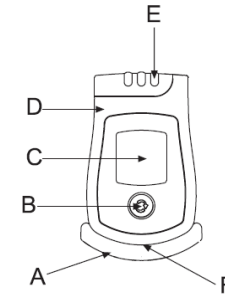

Figure 1
- ❑ The PulseOx will initiate readings within the first twenty (20) seconds.
- ❑ To change the direction of the LCD screen display 180°, press the Illumination and Bi-directional display button (Figure 1 - B) for two (2) seconds.